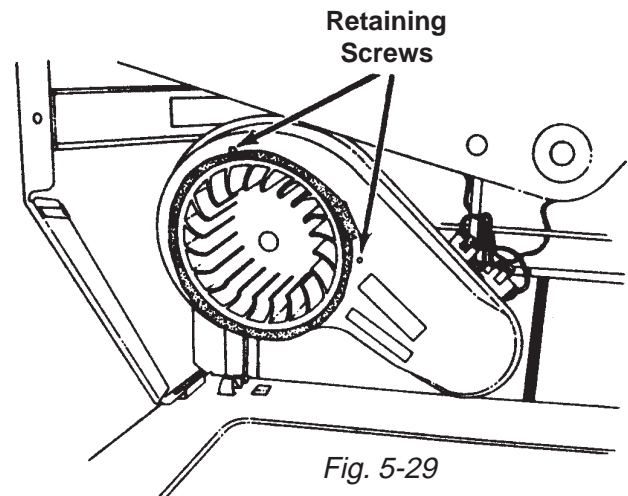

Fig. 5-29
4. Remove the Blower Assembly, Transition Duct and Blower Plate by removing the retaining screws. (Fig. 5-29)